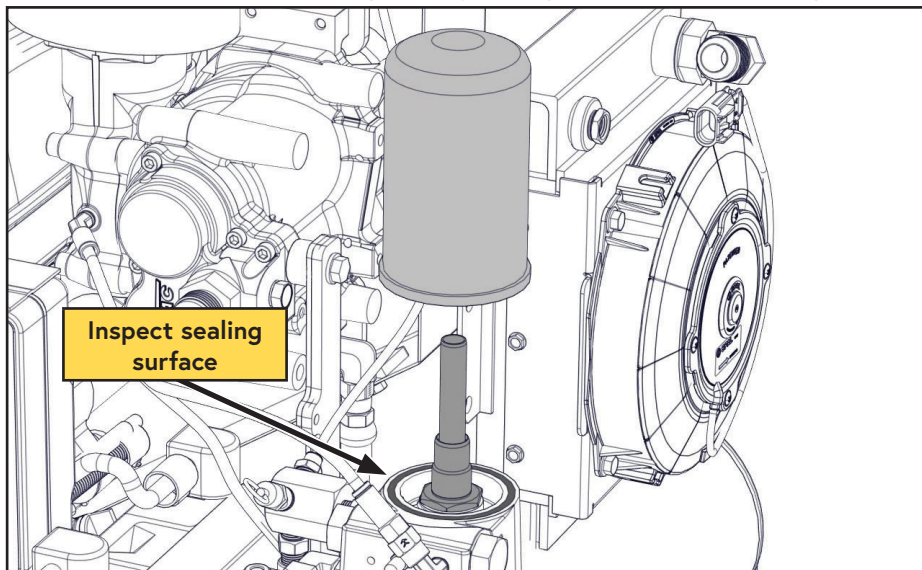

Figure 43 — Coalescing filter
- ☐ Remove the spin on coalescing filter by turning it counterclockwise (Figure 43).
- ☐ Clean the gasket sealing surface and inspect it for damage. The surface must be free of old gasket material and smooth to ensure a good seal (Figure 43).